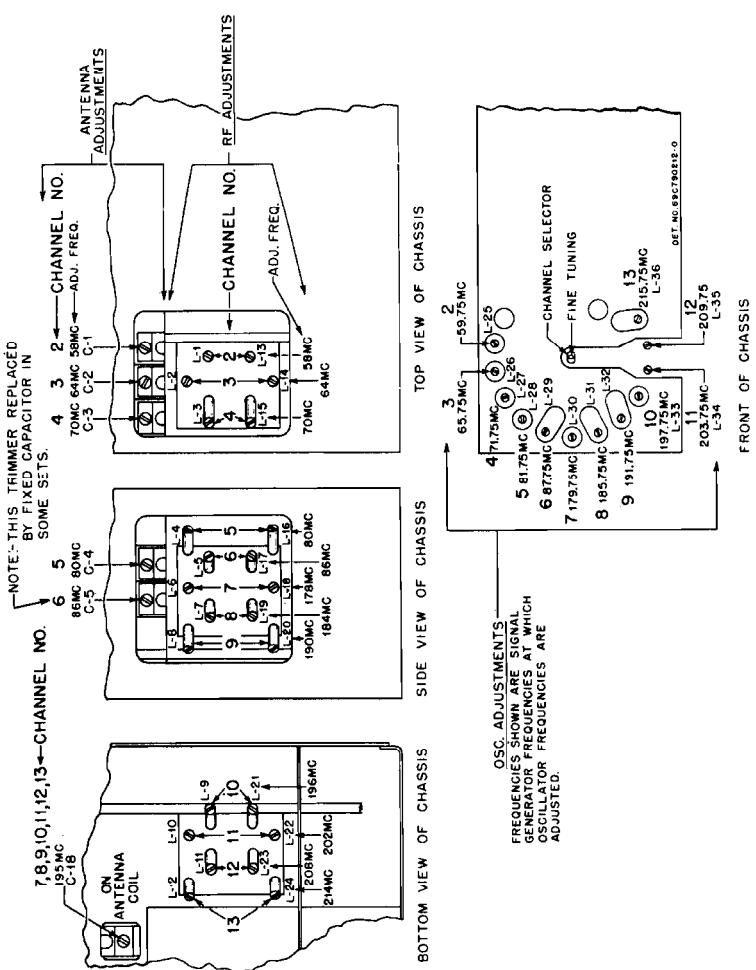

FIGURE 9. OSCILLATOR, RF & ANTENNA ADJUSTMENT LOCATIONS
The locations of the various adjustments are given in Figure 9. It will be noted that the oscillator adjustments are arranged in a counterclockwise sequence on the front side of the chassis, starting with the #2 channel as the first adjustment at the top.
7. Locate the oscillator tuning adjustment belonging to the channel being aligned. See Figure 9. With a non-metallic screwdriver, adjust the oscillator frequency until the reading on the meter is zero. The meter reading will change rapidly from one polarity, through zero, to the opposite polarity as the oscillator frequency is adjusted to produce the correct sound IF of 21.9 mc.
9. With the oscillator correctly set, the next step is the alignment of the RF amplifier. The RF coils for all channels and the antenna trimmers for the first five channels are aligned at a frequency 1 mc higher than the center frequency of the channel under test; that is, 1 mc above the lower channel limit, or 2 mc below the upper limit. See chart above for channels and Figure 9 for alignment locations and frequencies.